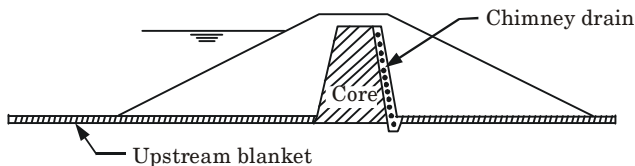

Fig. 2. Prevention of piping.
- i. The hydraulic gradient (i) depends upon the path of percolation (L). If the length of the path is increased, the exit gradient will decrease to a safe value.
- c. Providing an upstream impervious blanket, as shown in Fig. 2.
- ii. The quantity of seepage discharge is reduced by providing an impervious core, as shown in Fig. 2.
- iii. The drainage filter may be horizontal or in the form of a rock toe. It may also be in the form of a chimney drain, as shown in Fig. 2.
- The loaded filter increases the factor of safety against heave piping. The factor of safety (F) is given by,